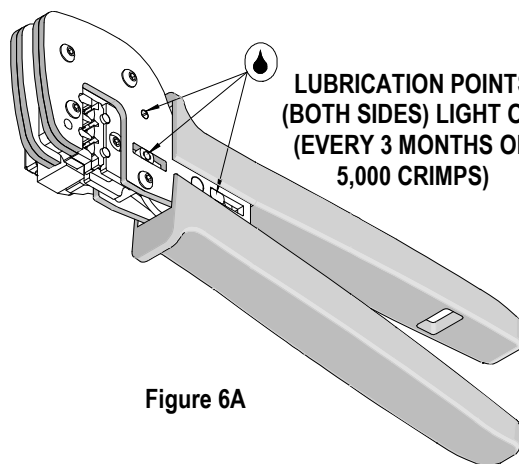

Figure 6A
3. Make certain all pins, pivot points and bearing surfaces in the tool head are protected with a thin coat of high-quality machine oil. Do not oil excessively. This tool was engineered for durability, but like any fine piece of equipment, it needs cleaning and lubrication for a maximum service life of trouble-free crimping. The use of a light oil such as 30 weight automotive oil every 5,000 crimps or monthly will significantly enhance the tool life and ensure a stable calibration. See Figure 6A or 6B for lubrication points.